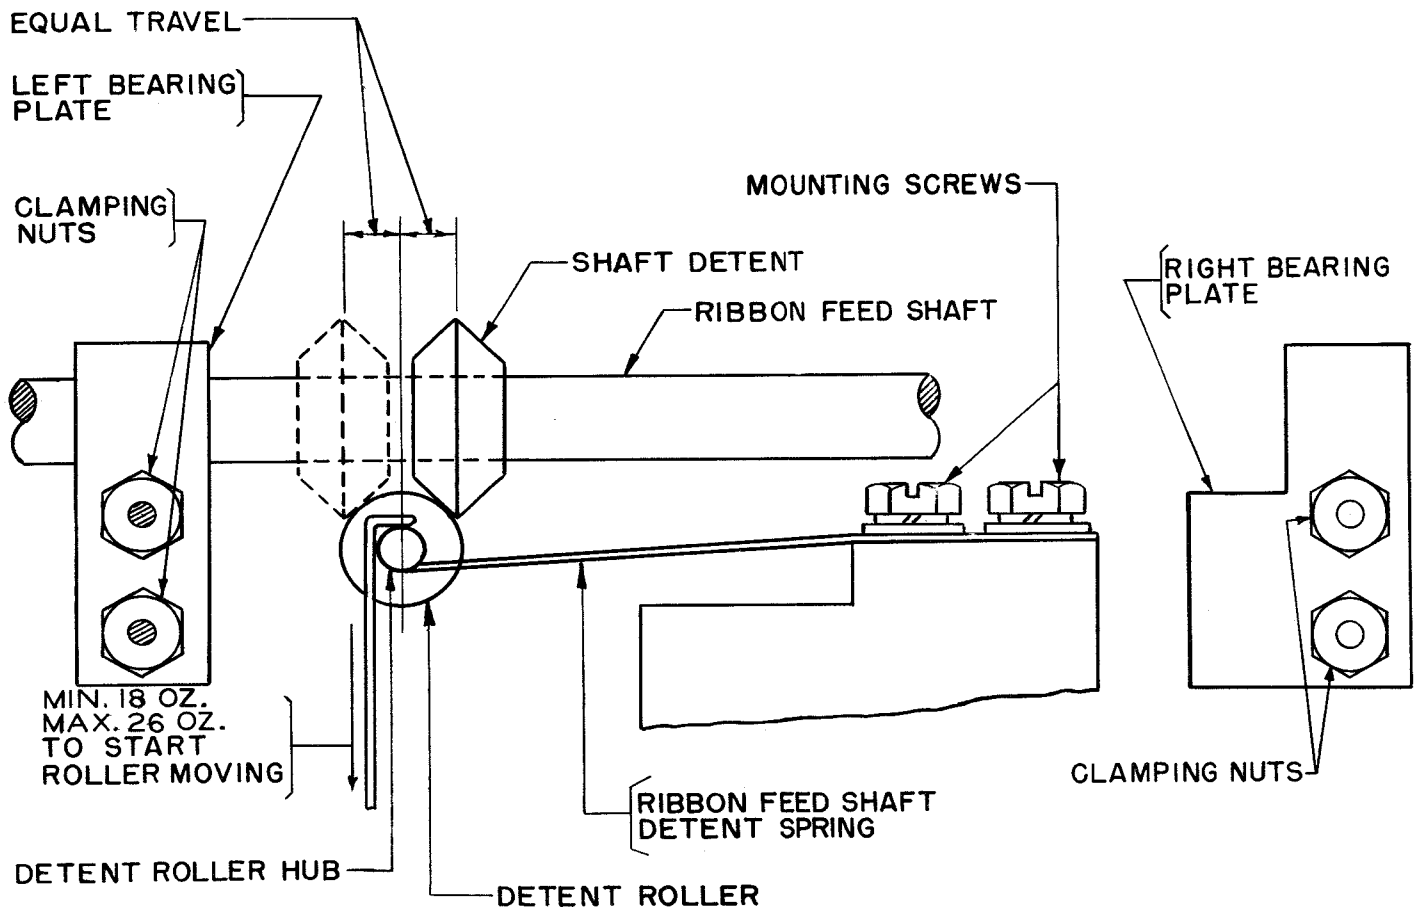

Figure 5
2.06 Ribbon-feed Shaft: The ribbon-feed shaft ends should be flush with, or extend not more than 0.015 inch beyond the inner ends of the teeth on the engaged vertical-feed-shaft gear when the ribbon-feed shaft is in its extreme right and left positions. Gauge by eye. See Figures 5 and 6.
2.07 Ribbon-feed-shaft Detent: The ribbon-feed-shaft detent should travel equally on either side of its detent roller when the shaft is moved from the extreme left to the extreme right or vice versa. Gauge by eye. See Figure 5.
2.08 Ribbon-feed-shaft Detent Spring: The ribbon-feed-shaft detent spring should have a tension of minimum 18 ounces, maximum 26 ounces, when the ribbon-feed shaft is in left position and when the shaft is in the right position. See Figure 5.